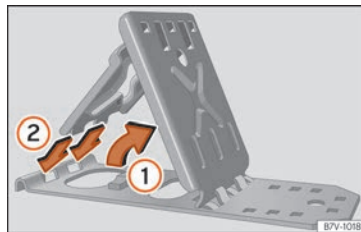

**Fig. 40** To unfold the foldable wedges.
- Lift the base plate » **Fig. 40** ①.